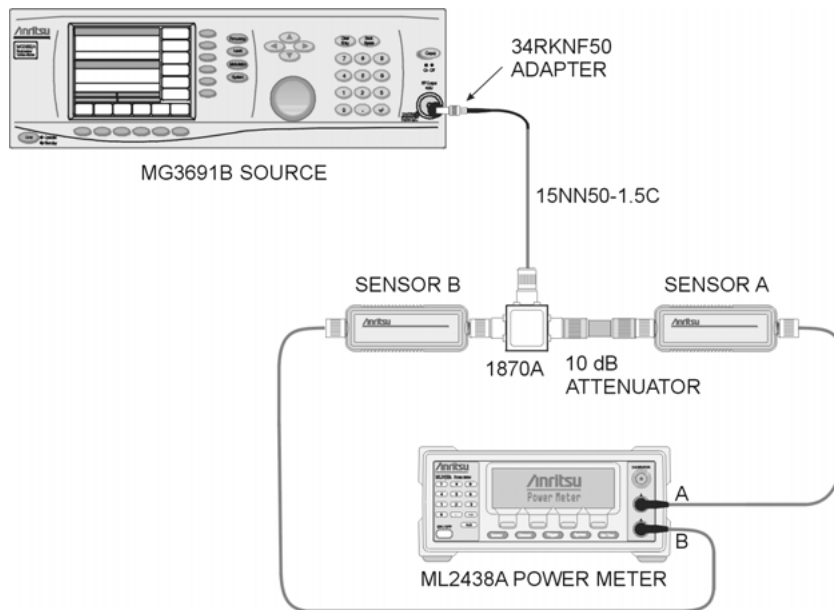

Figure 3-4. Power Meter Verification Pre-test Setup
5. Install the 10 dB Fixed Attenuator to the other power splitter output and then connect Sensor A to the end of the Attenuator (Refer to Figure 3-4).